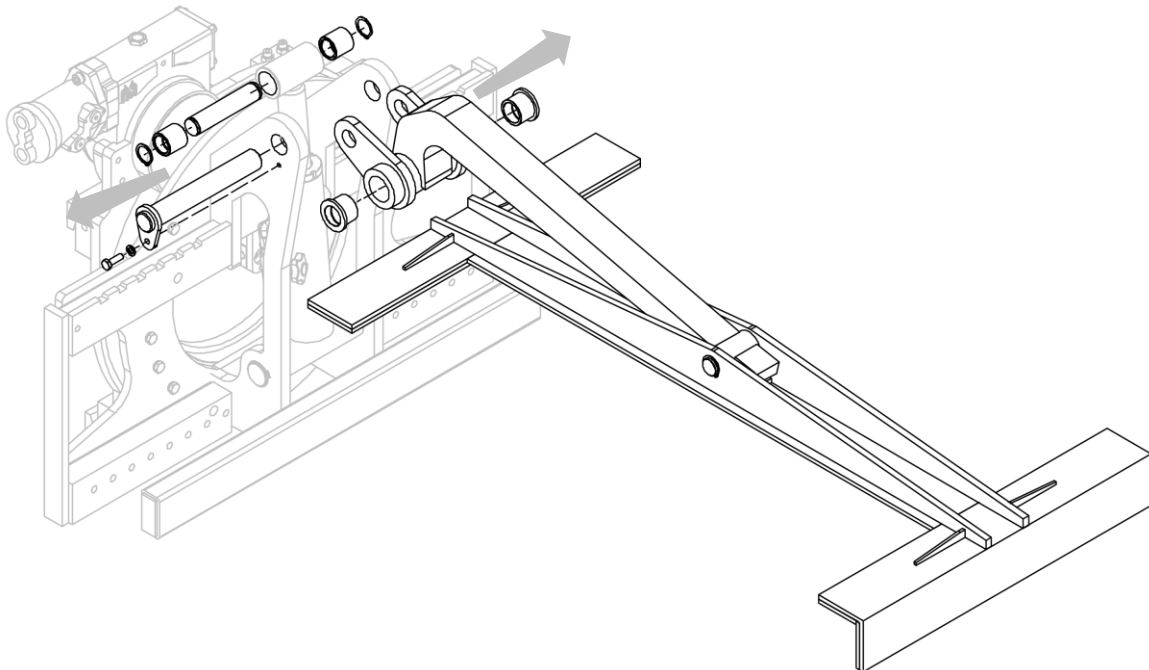

Figure 15
4. Use *Figure 15* as a guide.